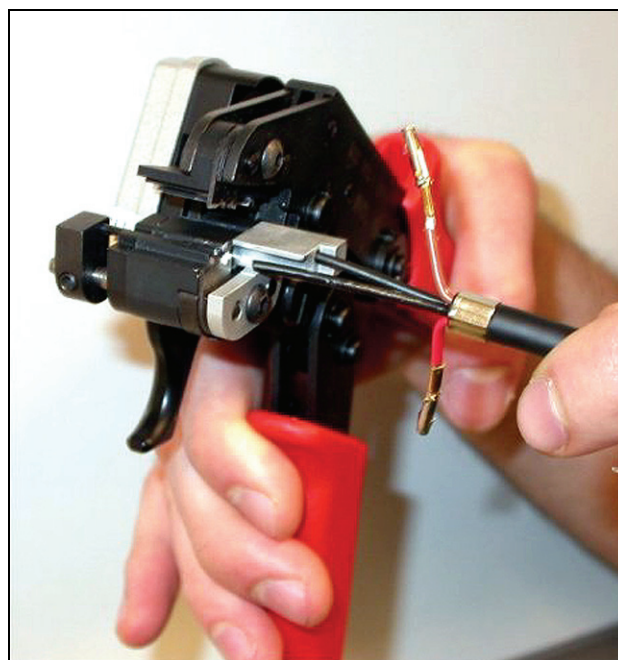
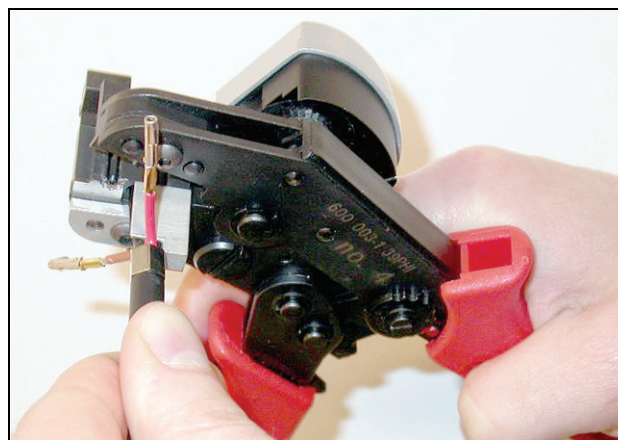

figure 30.16: Cutting a fiber (1)
figure 30.17: Cutting a fiber (2)
- 13 Slide the plastic optical fibers into the POF cutter/stripping tool (tool 6). The fiber that is going to be cut-off must be put in the small guiding hole, whereas the other fiber must be put in the large guiding hole (see figure 30.16). The crimping bush must rest against the stop (see figure 30.17).